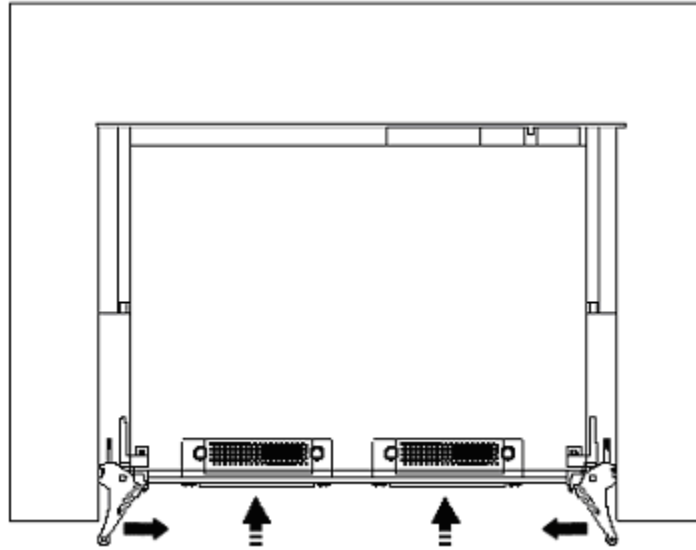

Figure 3-5: Ejector handles position after module insertion
6. After you feel resistance, push in the ejector handles as shown in Figure 3-5 to secure the module into the frame.